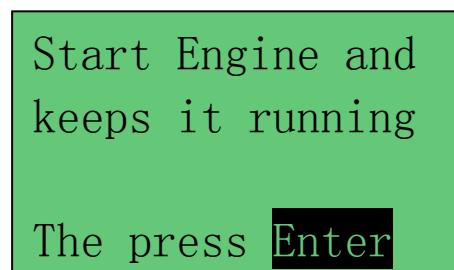

Figure 51
5. Press  key to continue and the display will show: (Fig.51)